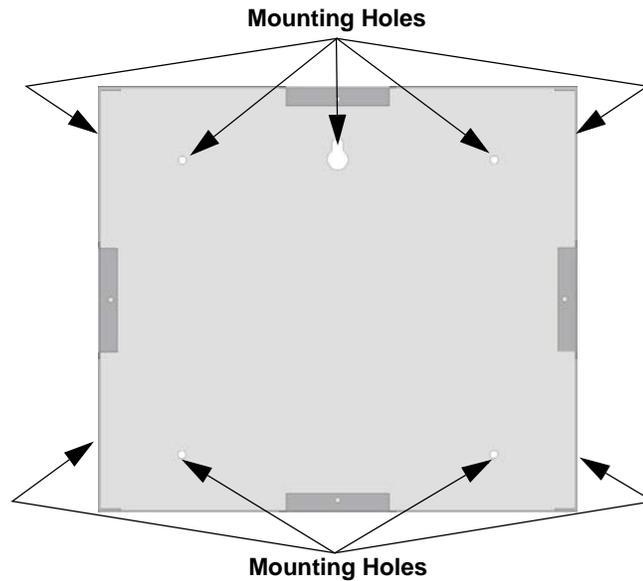

Figure 4.23 Back Box Mounting Holes
1. The back box dimensions are 9 1/4" W x 8 3/8" H. The minimum depth required is 2". The back box can be mounted prior to the complete installation of the 6860 using any of the mounting holes shown in Figure 4.23.